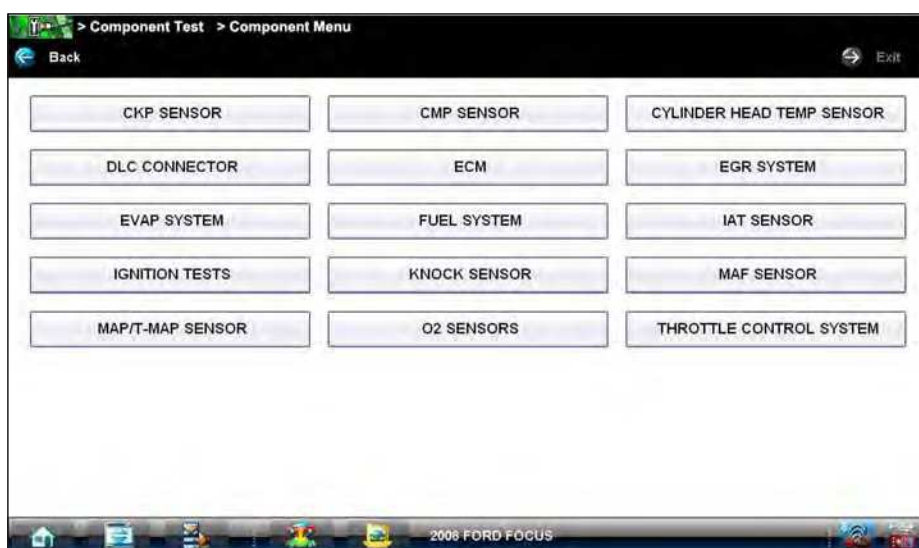

Figure 7-5 Sample available tests list
8. From the confirmation dialog box, select **OK** to continue, or **Cancel** to return to the engine list. A list of tests available for the identified vehicle displays (Figure 7-5).